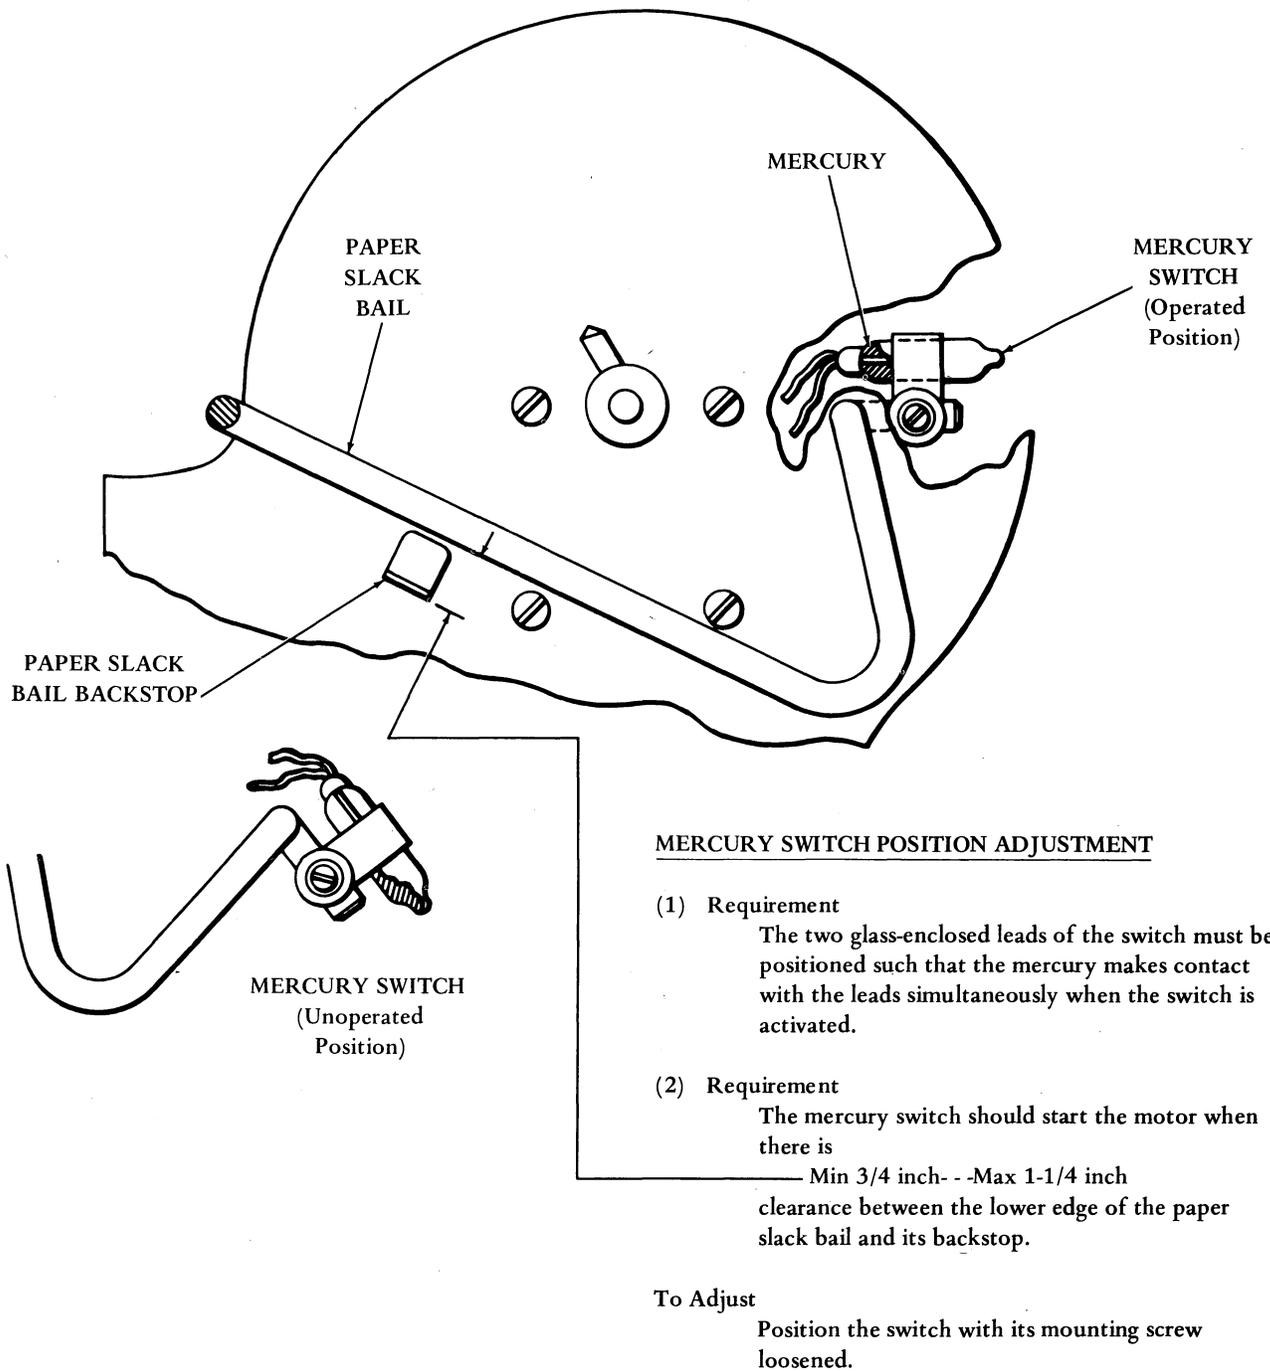

Figure 6 - Mercury Switch Adjustment
4.01 Refer to Figure 6, and make the Mercury Switch Position adjustment.